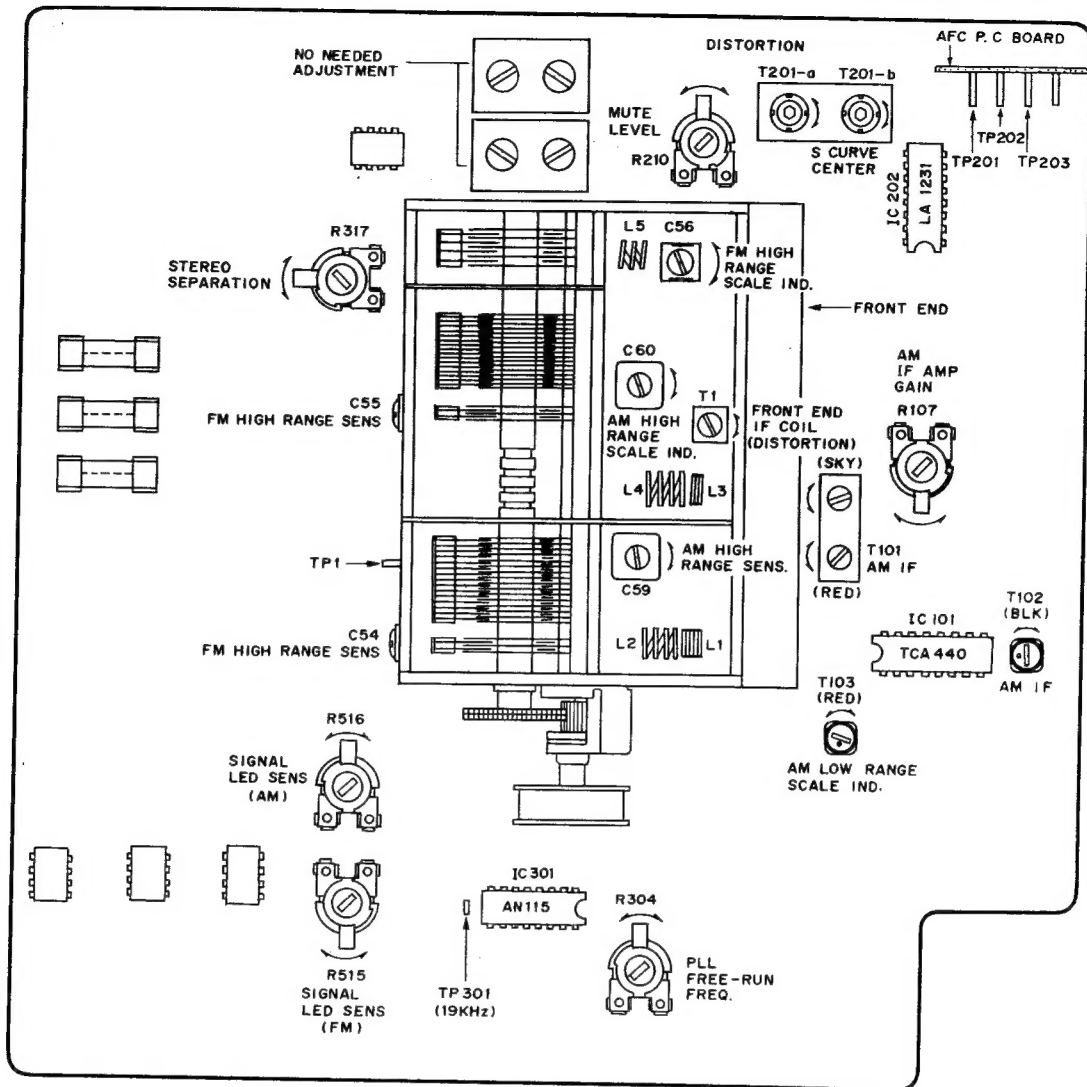

Fig. 4 Tuner P.C Board
1. FM TUNER SECTION ADJUSTMENT (Refer to Figs. 4, 5)